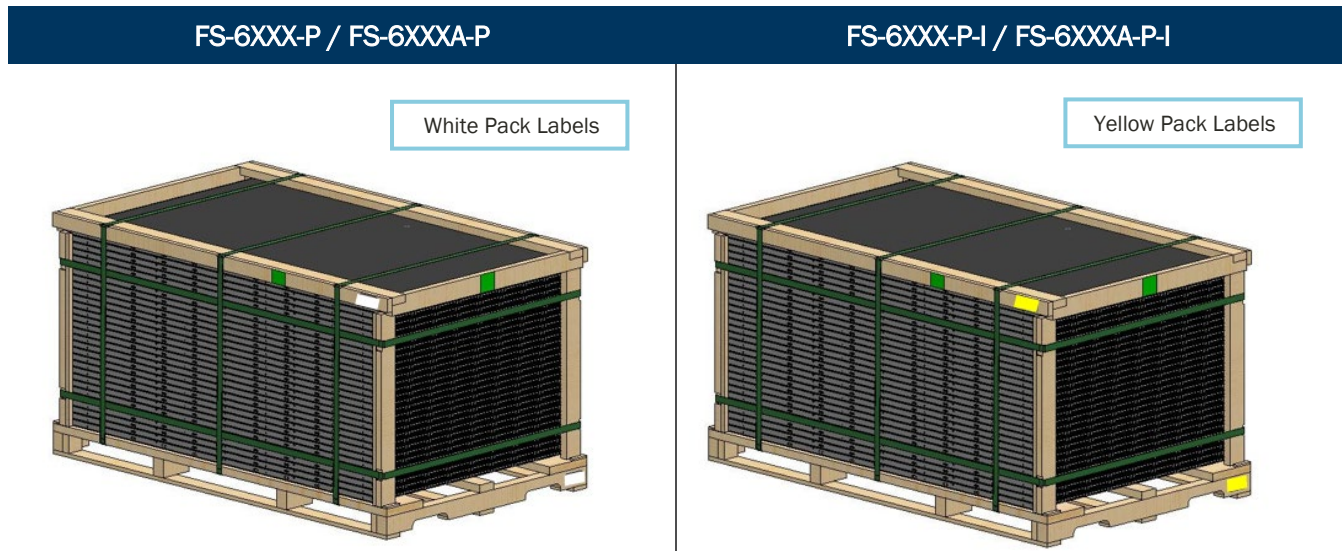

Figure 1: Pack Label Color Differentiation
- ▶ Color of the module product label and pack label (Figure 1)